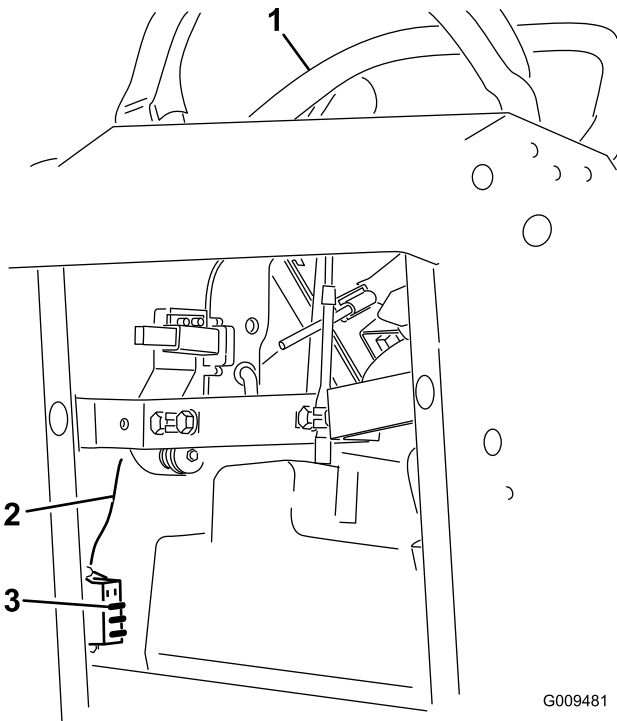

Figure 52
2. Pull out on the fuse to remove or replace it (Figure 52).
Note: Ensure the correct size fuse is install with the correct wire color as shown in Figure 52.